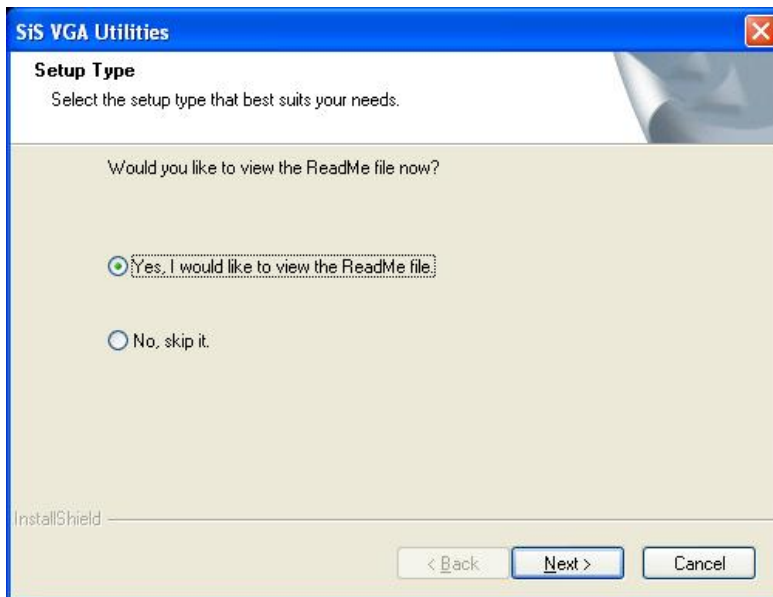

Figure 6-25: Read ReadMe File
Step 5: The driver installation begins. Once the installation is complete, the **Setup Type** screen appears (**Figure 6-25**). Click **NEXT** to read the ReadMe file.